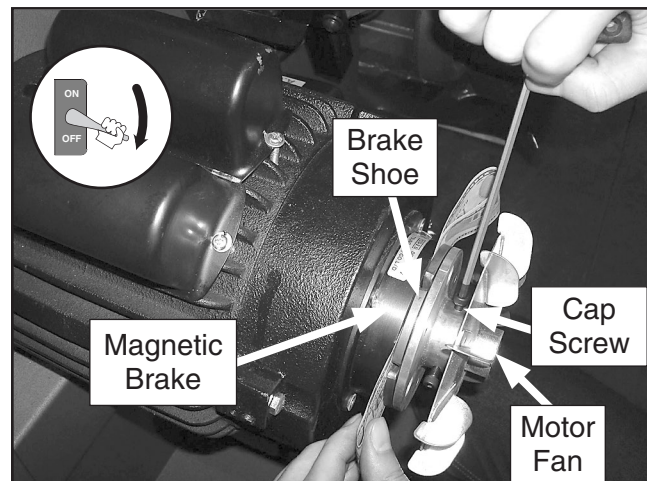

Figure 10. Adjusting distance between magnetic brake and brake shoe.
2. Remove the motor fan cover, then loosen the cap screws securing the motor fan and brake shoe (see **Figure 10**).
3. Fold two dollar bills in half and slide them (or feeler gauges) between the brake shoe and magnetic brake on both sides (see **Figure 10**).